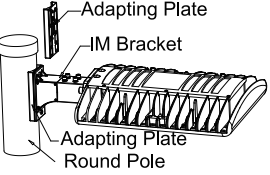

Figure 11-3
2. Notice: Round pole should be with adapting plate.(Figure 11-3)